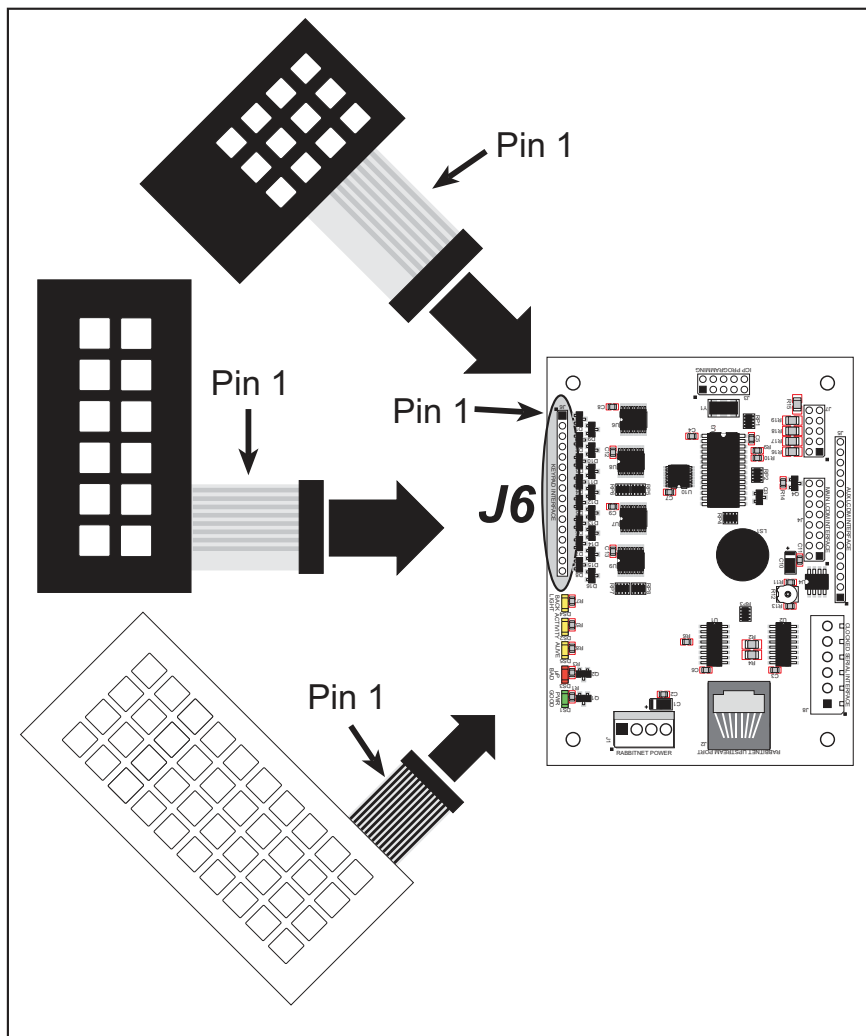

Figure A-1. Connecting Keypads to Keypad/Display Interface Header J6
Connect pin 1 of the keypad to pin 1 of the Keypad/Display interface header J6 as shown in Figure A-1. Follow the pin 1 locations as shown in the diagram and disregard the blue dot that may be present on one side of the connector.
1. Connect pin 1 of the 2 × 6 keypad to pin 1 of the Keypad/Display interface header J6 as shown in Figure A-1.